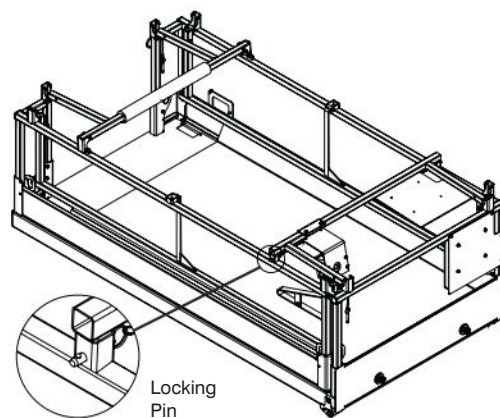

Figure 2-17b. All Guardrails Folded Down
7. Lock in place on the mounting post using the locking pin (refer to Figure 2-17b). Ensure that the detent ball of the pin is all the way through.
5. Lock each guardrail in place with the locking pins ensuring that the detent ball of each pin is all the way through. See Figure 2-17b.